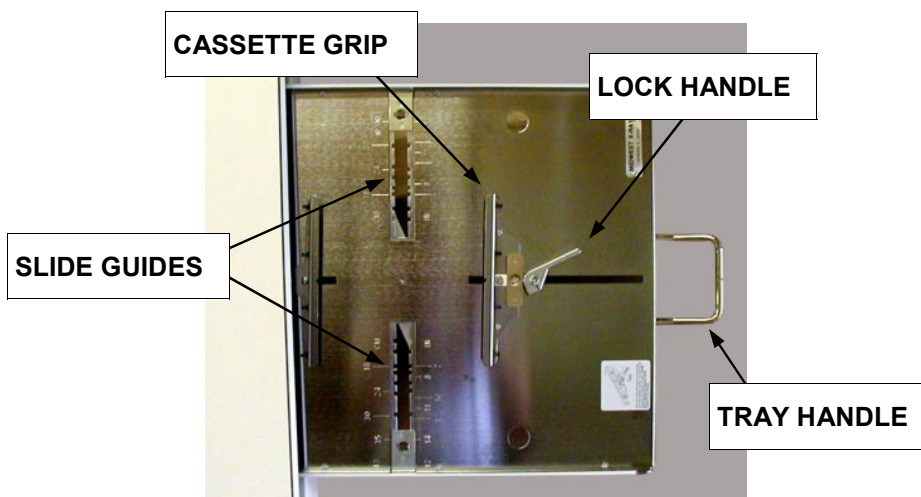

Figure 9. Midwest Cassette Film Tray
1. Pull cassette tray from Receptor Cabinet using tray handle (see Figure 9).